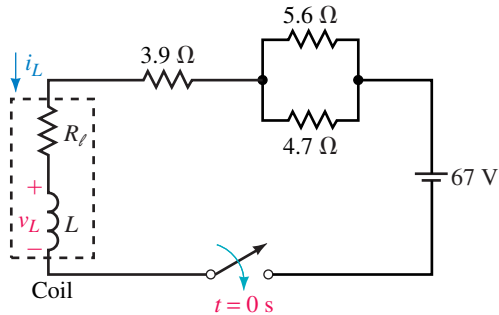

FIGURE 14-45
21. For the coil of Figure 14-45 $R_\ell = 1.7 \Omega$ and $L = 150 \text{ mH}$. Determine coil current at $t = 18.4 \text{ ms}$.